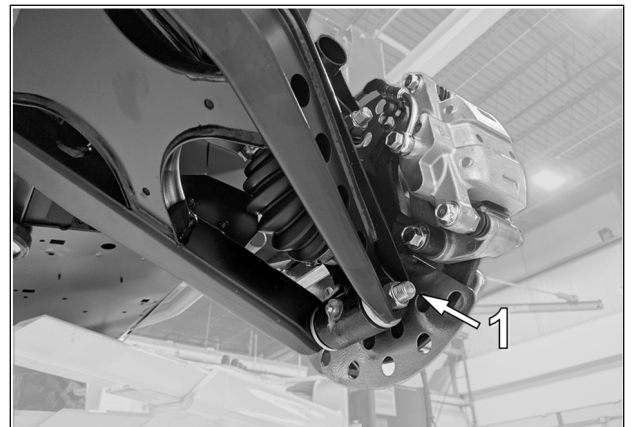

Fig. 4
5. Remove bolt (1) that links lower suspension arm to wheel knuckle. See Fig. 4